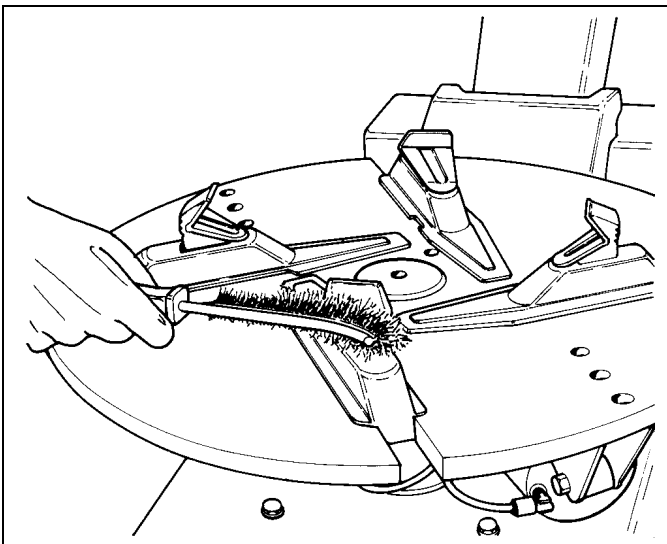

Fig.28
**C.** Clean every week the teeth of the clamps with a wire brush, check the plastic rim protector and replace it if worn (Fig.28).